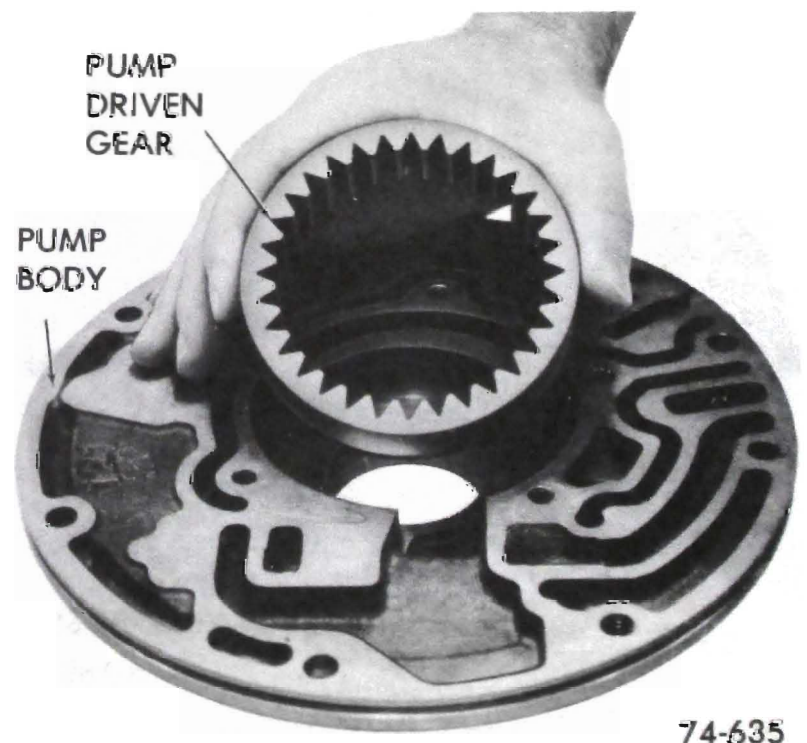

Figure 76-167
1. Install drive and driven pump gears into the pump body with alignment marks up. See Figures 76-167 and 76-168.